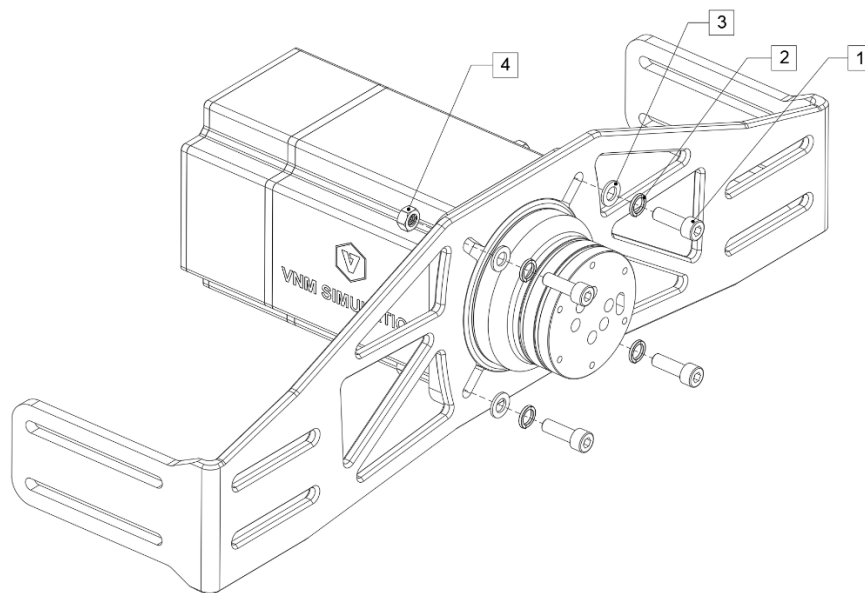

Figure 2. Mounting VNM Wheelbase on a simulator rig front mount bracket.
Wheelbase Xtreme	is mounted with 4xM8 bolts length 30mm with 1,25mm thread pitch (1); 4xM8 spring washers (2); 4xM8 flat washers (3) and 4xM8 nuts (4) in Figure 2